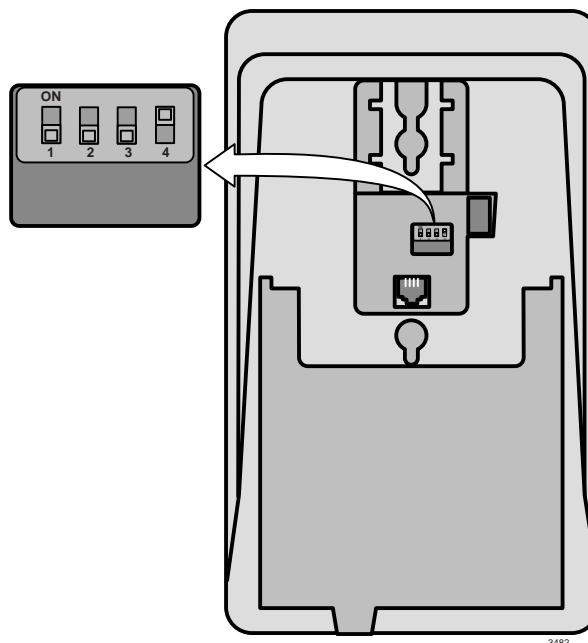

Figure 9-21 DKT2001 Single Line Digital Telephone Settings
1. Set the DIP switches to match Figure 9-21.